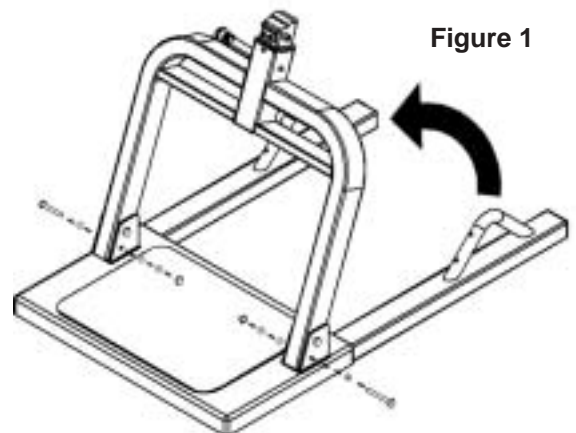

Figure 1
- Rotate the Support Post Assembly up approximately 80 degrees until the two lower holes in the Support Post Assembly align with the lower holes in the Frame Assembly. (See Figure 1)